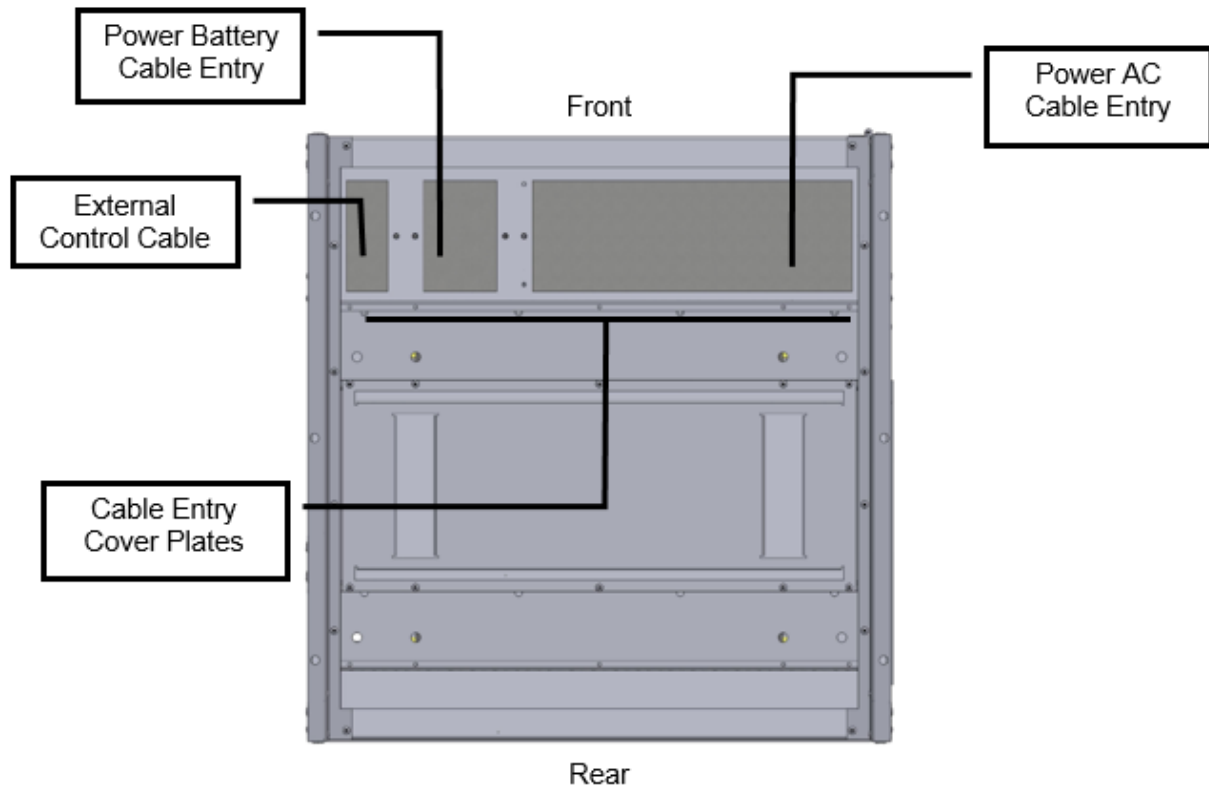

Figure 4 – Bottom Cable Entry Layout
5. Route the power cable through the bottom to the UPS terminals in base to your configuration (see **Figure 4**)